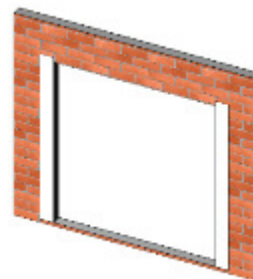

Figure 20:
2. At each jamb, embed the flashing paper into the sealant onto mounting flange and fasten into place. The flashing paper should be cut sufficiently long enough to extend at least 3" past the weep-screed or diado flashing and at least 6 inches above the head of the window (Figure 20).